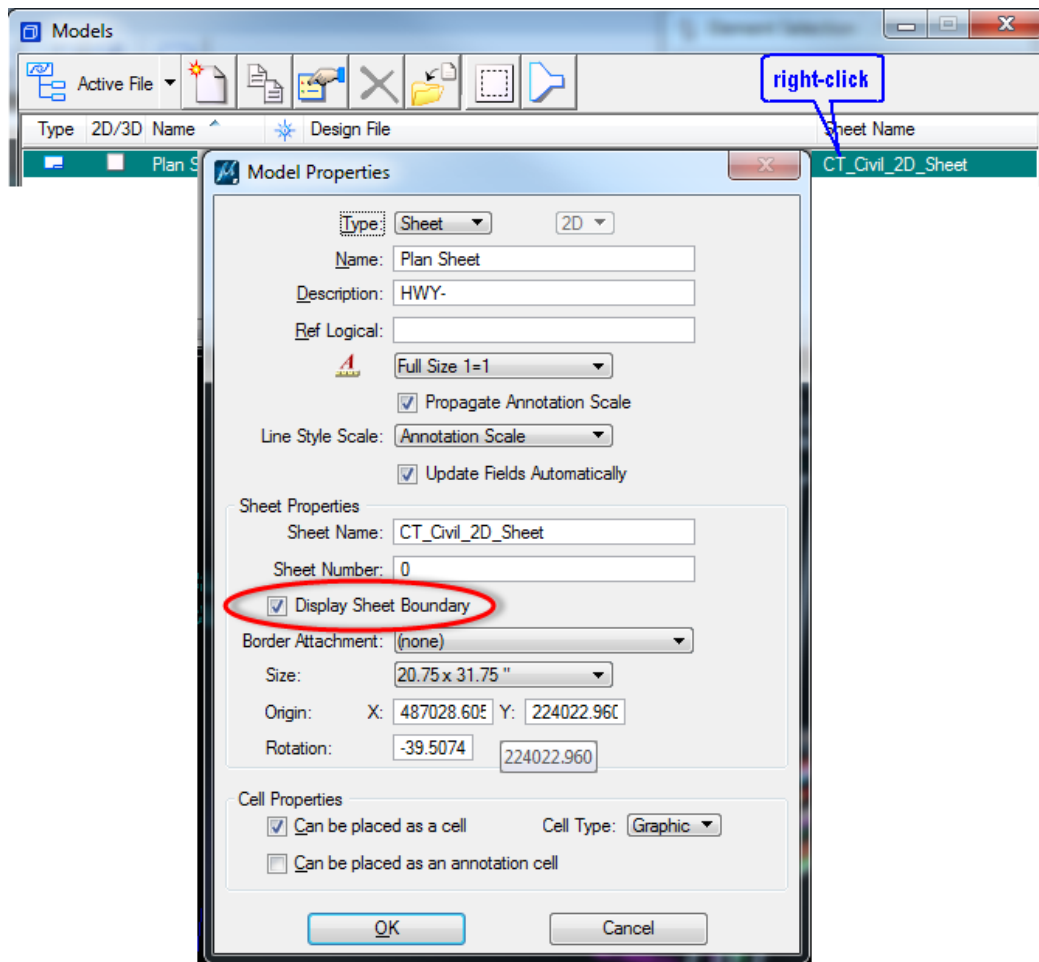

Figure 52 - Display Sheet Boundary (Model Properties box)
2. In the Models dialog box **Right-click** on the **CT\_Civil\_2D\_Sheet** and select **Properties**. Toggle on **Display Sheet Boundary**. Click **OK**. (Figure 52)